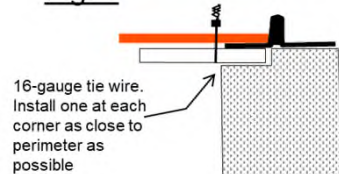

Fig. 2
- 2. Anchor methods:** **A)** Attach with 16-gauge tie wire. Cut wire to 18" lengths. At each corner of GR8 Guard™, feed one end of wire down thru GR8 Guard™, around grate bar, and back-up thru GR8 Guard™. Above ground, pull tight and twist wires several times. Cut off excess (Fig 1) or **B)** Place small snake bags or equivalent (gravel bags) containing clean, pea-sized graded gravel around perimeter of GR8 Guard™ (Fig. 2), or **C)** Place traffic cone on top of GR8 Guard™ (Fig 3). For better performance and durability install with Top Guard™ adhesive (Loctite® Power Grab All Purpose) caulk. This adhesive peels off easily when GR8 Guard™ is removed. See installation videos: Part I: <https://youtu.be/qMPq9mE2784> Part II: <https://youtu.be/3GfbgpYuHNw>